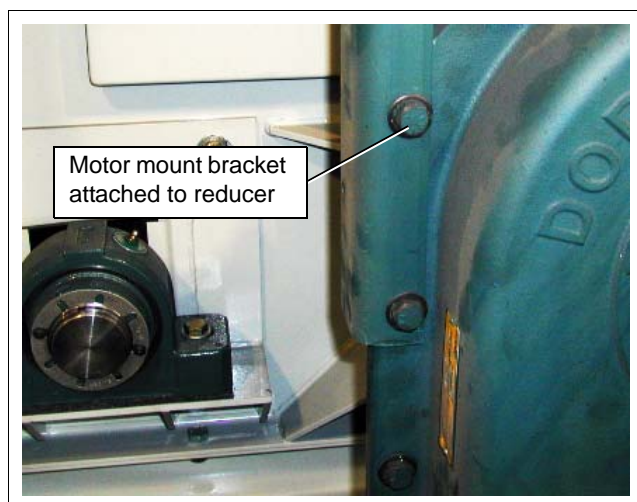

Figure 6P
Remove three (3) bolts from each side of the reducer housing. Use a set of holes in the motor mount upright brackets that allows the motor plate to be as close as possible to the top of the conveyor. *(See Figure 6P.)* Check this location by temporarily positioning the belt guard on the reducer with the hole in the guard centered over the reducer input shaft. This will show the correct motor position for the lengths of V-belts provided. Attach by replacing bolts through brackets and housing. Tighten bolts securely. **(NOTE:** *Motor mount angle may have to be trimmed for torque arm.*) *(See Figure 6O on Page 22.)*